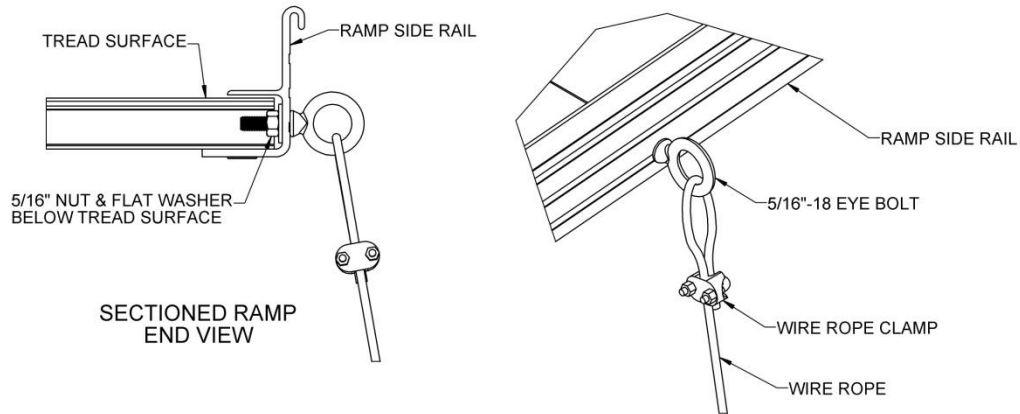

FIG. 6.25
- 6.9.11. Install one of the 5/16" eyebolts and secure to the ramp using one 5/16" flat washer and one 5/16" nut in each hole (FIG. 6.25).